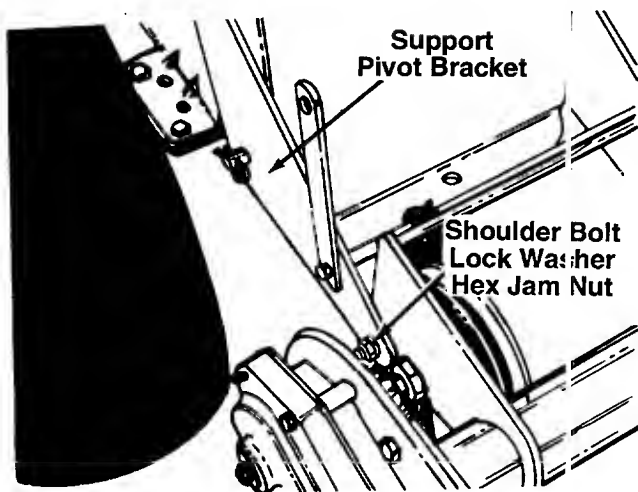
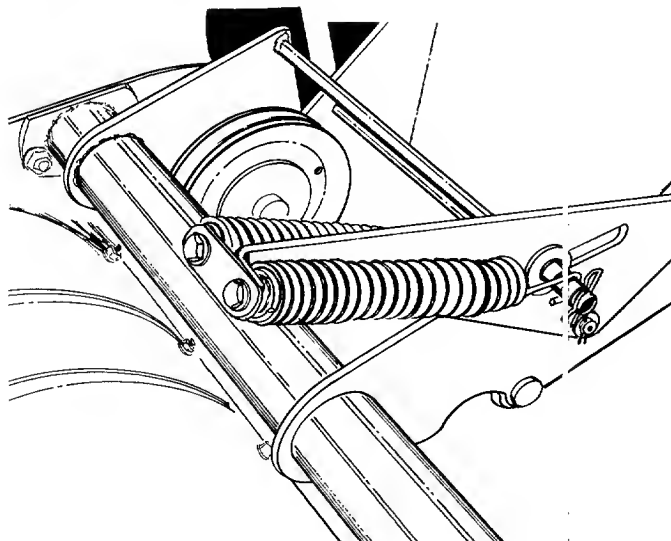

FIGURE 9.
FIGURE 10.
18. Secure the left hand side of tiller to the support pivot bracket using shoulder bolt, lock washer and hex jam nut provided. Head of the shoulder bolt must be to the inside of the tiller. See figure 9.
19. Thread the adjustment ferrule (P) onto the end of the lift rod assembly a few turns. Slide the ferrule and the lift rod assembly through the slot in the right hand tractor fender.
20. Attach the lift rod assembly to the rod which is part of the pivot bracket assembly as follows. See figure 10.